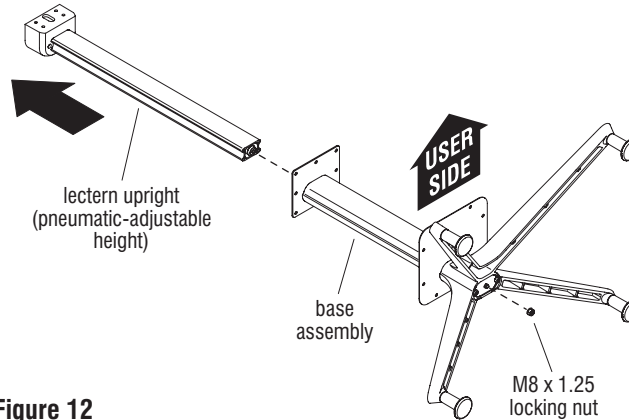

Figure 12
1. Carefully place the base assembly onto its back, non-user side, on a soft, protective surface (Figure 12).
2. At the underside of the base assembly, remove the M8 x 1.25 locking nut securing the lectern upright to the base assembly (Figure 12 & Detail Q).
3. Pull out and remove the lectern upright from the base assembly. Set the lectern upright aside to be installed at a later step (Figure 12).